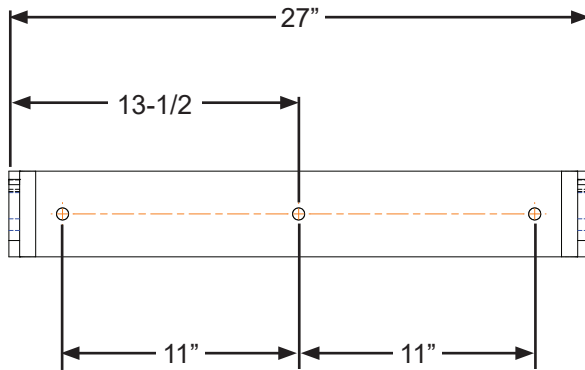

Figure 11
2. Measure 11" (28 cm) in each direction from the center line mark, and create a new mark as shown in Figure 11. Ensure marks are all level.